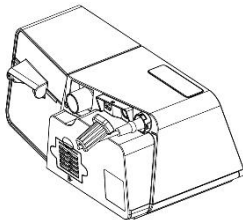

Fig. 12-5
(1) Connect the device to power according to *12.3 Connecting to Power*.
(2) Clip the narrow end of the power cord locker to the cord of the power adapter, as shown in Fig. 12-5.